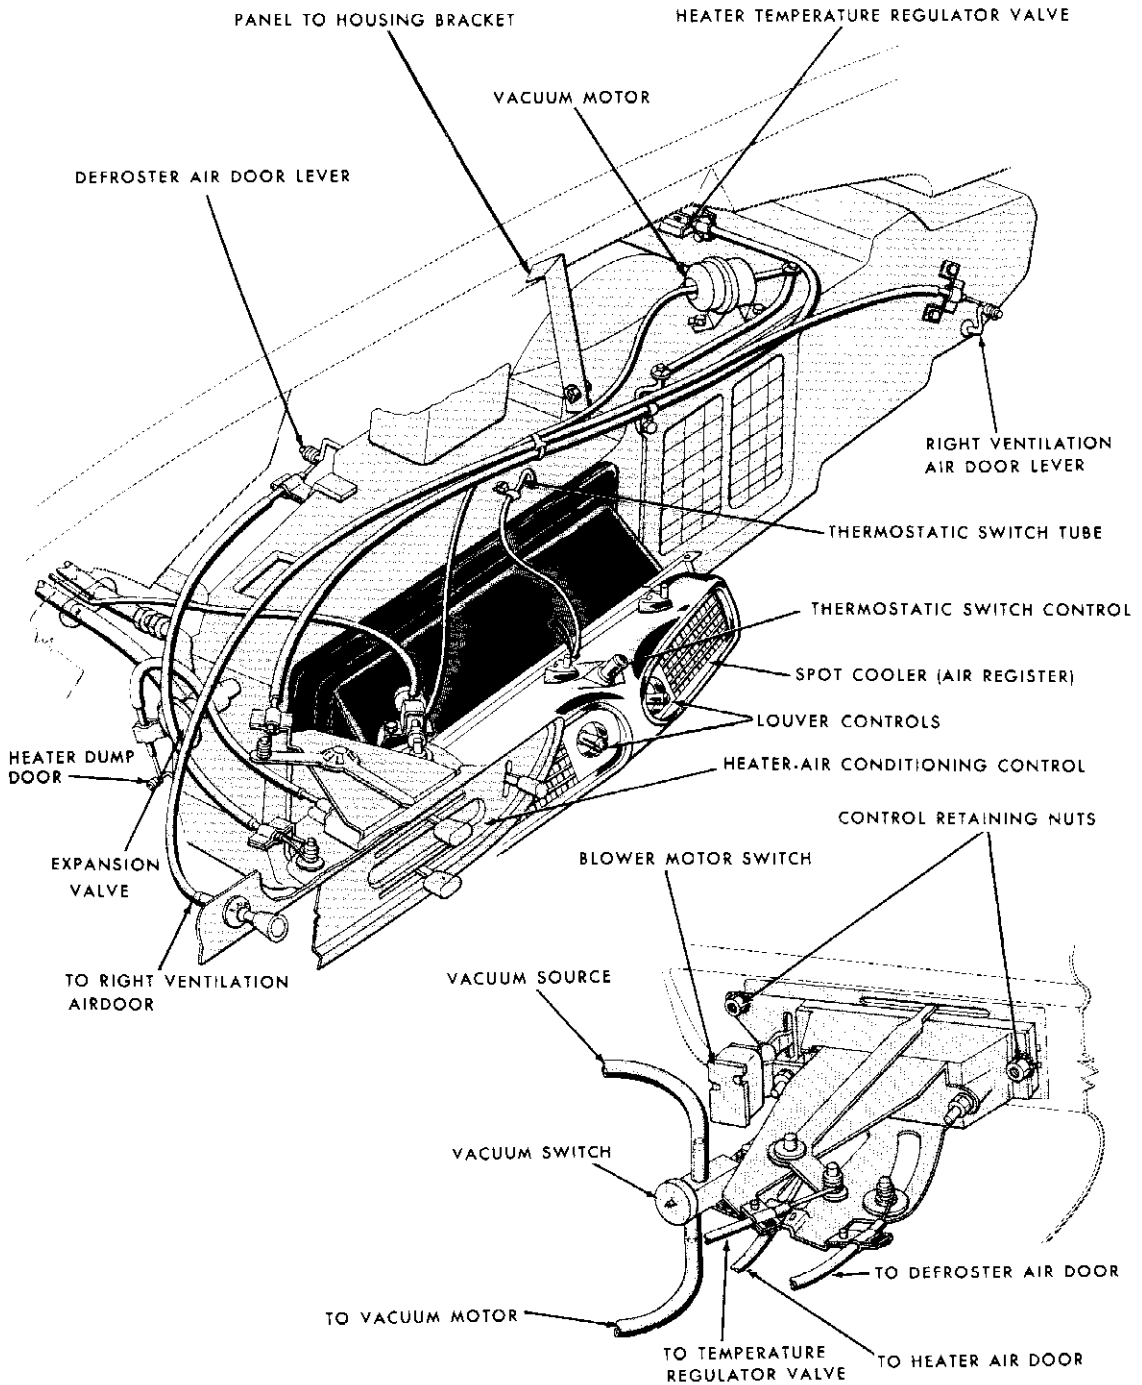

Fig. 5-3-Heater-Air Conditioning Control System-1960-(60E-7818)
Figure 5-3 shows the heater and air conditioning control system.
5. Remove 2 control assembly retaining nuts at the back side of the instrument panel. (See figure 5-3.)